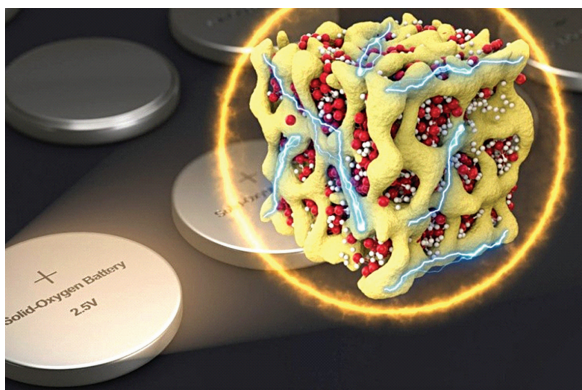

Fig. 2: Nanolithia particles of lithium-oxides shown in yellow in red cobalt-oxide lattice
7. In 2018, a new concept envisaged embedding nano compounds of lithium-oxides in a sponge-like lattice of cobalt-oxide, called nanolithia, as shown in Fig. 2. The nanolithia particles of lithium and oxygen are generally very unstable. But these particles become stable when housed in a cobalt-oxide matrix and, surprisingly, the aggregate acts as a fine catalyst to speed up the chemical reaction. In this variant the same kind of electrochemical reaction takes place between lithium and oxygen during charging and discharging but without letting the oxygen revert to its gaseous form. The bound oxygen in nanolithia does the job. In lithium-air batteries the voltage difference between charging and discharging is 1.3V, which reduces the charging efficiency. Use of nanolithia reduces the voltage loss from 1.3V